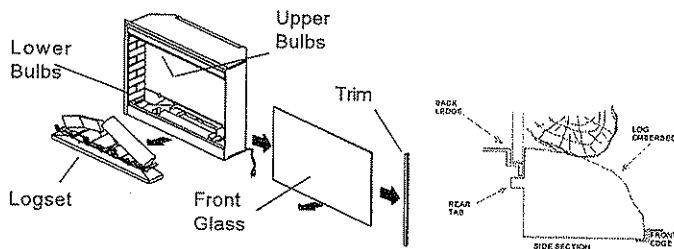

Figure 2
11. Replace the logset by inserting the front edge of the fireplace and push down on the rear edge of the emberbed until it snaps into place. (Figure 2)